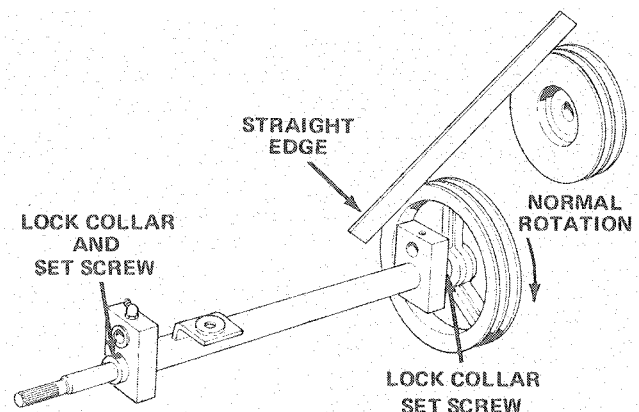

Figure 50
3. Loosen set screws in lock collars at front and back of PTO pivot shaft (Fig. 50). Using a punch and hammer, loosen collars by driving them opposite the direction of normal shaft rotation. The PTO shaft and PTO pulley assembly should now be free to slide.
4. Using a straight edge, line up top of engine pulley, with top of PTO pulley (Fig. 50). When top of pulleys are aligned, bottom of pulleys are misaligned by 3°. Move PTO pulley until it is in line with the engine pulley. Then lock the pivot shaft and pulley in place by tightening the lock collars in the normal direction of shaft rotation (Fig. 50). Check alignment of pulleys again to assure alignment did not change when collars were tightened. If alignment is still correct, tighten lock collar set screws.